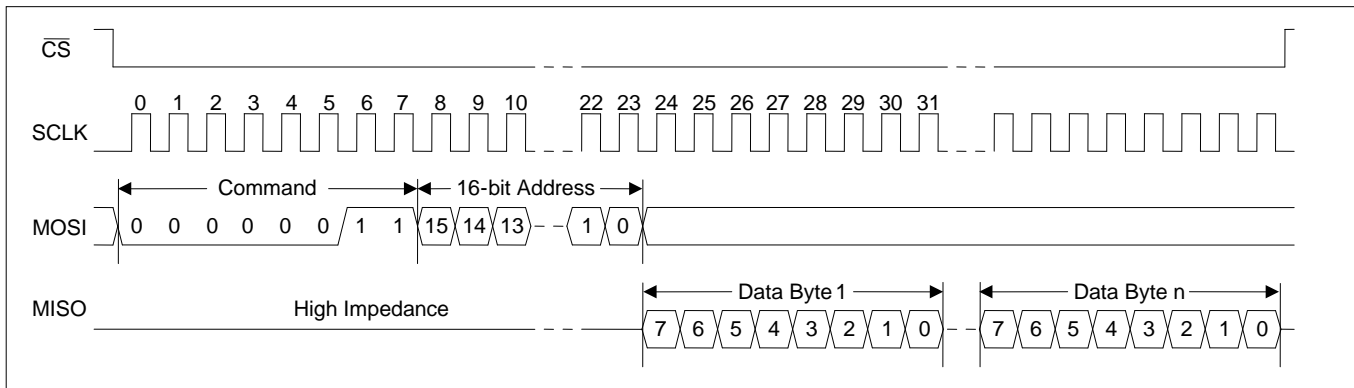

Figure 11 - SPI Read Transaction Functional Timing
**Read Transactions.** The device registers are accessible when **EESEL**=0. The internal EEPROM memory is accessible when **EESEL**=1. After driving CSN low, the bus master transmits the read command followed by the 16-bit address. The device then responds with the requested data byte on MISO, increments its address counter, and prefetches the next data byte. If the bus master continues to demand data, the device continues to provide the data on MISO, increment its address counter, and prefetch the following byte. The read transaction is completed when the bus master drives CSN high. See Figure 11.